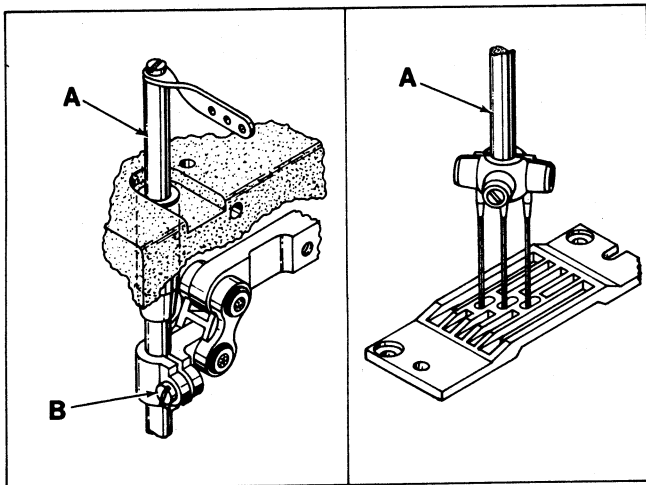
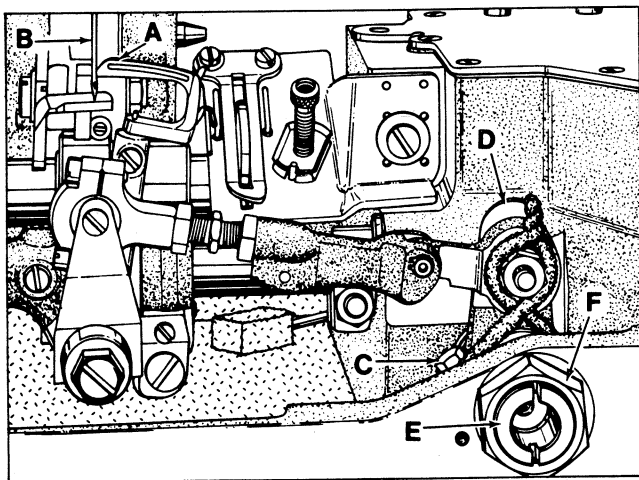
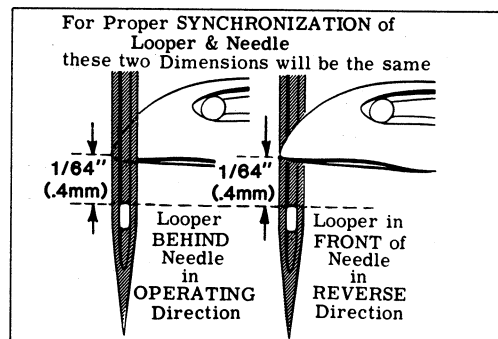

Fig. 3
Fig. 4
Fig. 5
Insert a new set of needles (type and size required). Turn handwheel to bring needle bar (A, Fig. 3) down to ensure that needles center in needle holes of throat plate as shown in Fig. 3. Adjustment can be made by loosening screw (B) slightly, allowing needle bar to be turned as required. Tighten clamp screw.
Insert looper into the looper rocker, pushing it all the way down and tighten screw against flat on shank of looper. Turn handwheel in operating direction until the point of the looper (A, Fig. 4) moving to the left, is even with the left side of the right needle (B). Note the height of the eye of the needle with respect to the looper point (See Fig. 5). Turn the handwheel in the reverse direction until the point of looper again moving to the left, is even with the left side of right needle (See Fig. 5). If the height of the eye of the needle with respect to the looper point are the same, looper and needle motions are synchronized - a variation of .005 inch (.127mm) is allowable.
NOTE: The 1/64 inch (.4mm) dimension shown in Fig. 5 is for final setting of needle bar height.
Loosen screw (C, Fig. 4) in looper drive lever (D). A rod of .146-40 thd. or Union Special Screw No. 22870 A can be threaded into the looper drive lever rocker shaft through the center of thrust adjusting screw (E). Tap or pull slightly as required to position shaft for proper synchronization. Tighten screw (C) securely and remove rod or screw used to position shaft. Loosen lock nut (F) and TORQUE thrust adjusting screw (E) to 6 in. lbs. (7cm/kg); re-tighten lock nut (F) securely.
The height of the needle is correct when the top of its eye is $1/64$ inch (.4mm) below the underside of the looper, with the looper point flush with the left side of the needle as shown in Fig. 5. On Styles 56500 A, B and C the top of the needle eyes should be even with the underside of the looper when the looper point is flush with the left side of the needle. If adjustment is necessary, loosen screw (B, Fig. 3) and move needle bar (A) up or down as required and retighten screw. On two and three needle machines, care should be taken not to disturb alignment of needle bar when moving the needle bar either up or down. The descending needles must be deflected alike on the back of the loopers.